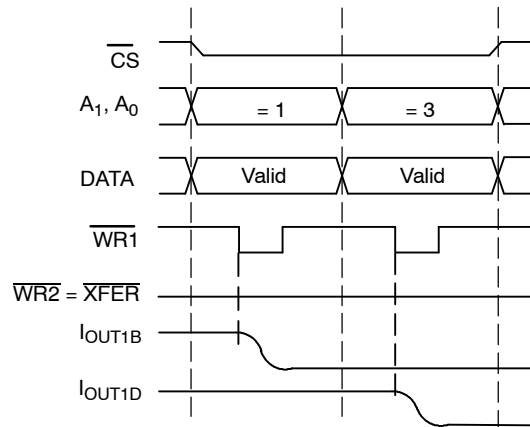

Figure 8. Individual DAC Update
- 2) Individual DAC update. The condition  $\overline{WR2} = \overline{XFER} = \text{low}$  makes the DAC latches transparent. A writing to the B1/B2 latches updates the DAC outputs (Figure 8.).